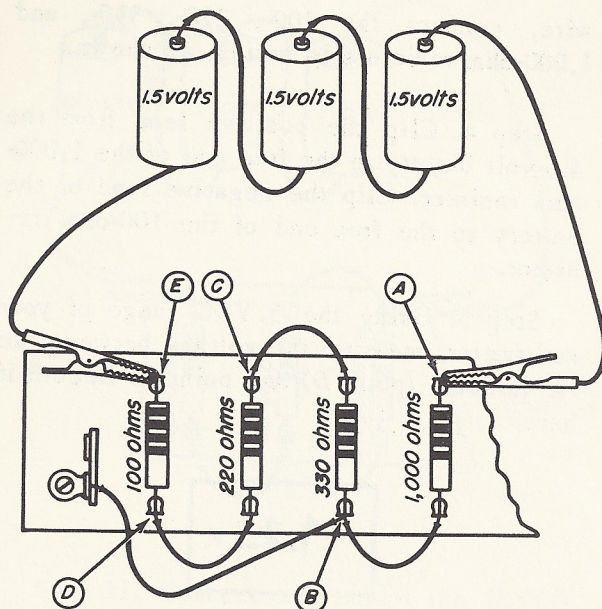

Fig. 9-7
Step 2. Solder the free end of this lead to point *B*, as shown in Fig. 9-7.